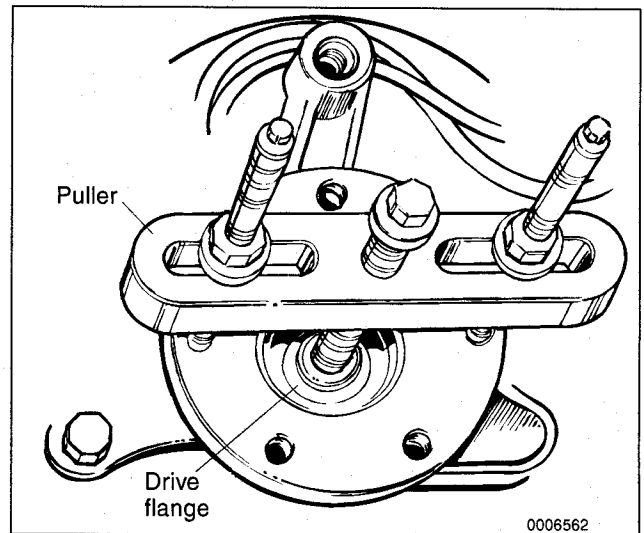

Fig. 13. Press drive axle from wheel bearing housing using puller.
9. Lower trailing arm sufficiently to gain clearance for removing drive axle. If necessary, use an appropriate puller to remove drive axle from wheel bearing housing. See Fig. 13.